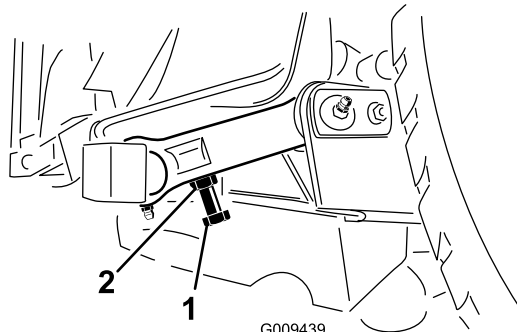

Figure 26
3. To adjust distance, locate adjuster bolt on rear pivot link of cutting unit (Figure 26). Loosen jam nut on adjuster bolt. Loosen or tighten adjuster bolts until 10-16 mm (0.38-0.62 inch) clearance is attained, then tighten jam nut.